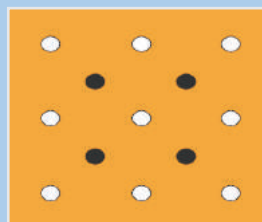

Figure 1 : Side A of the Model
On the topside (A) of the platform, holes are made at the vertices and centres of squares, as shown in (Fig 1)